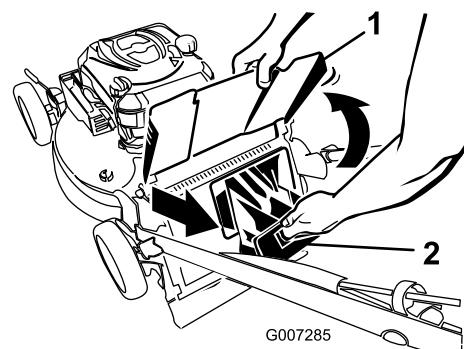

Figure 30
2. Pull out the rear-discharge plug (Figure 30).
1. Raise and hold up the discharge deflector (Figure 30).